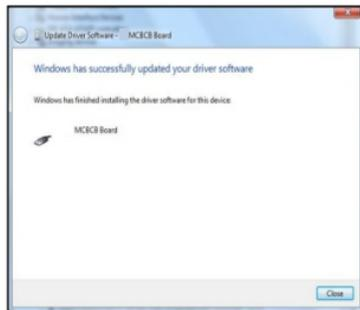

Figure 3-15
Click on the "Always install the driver software (I)", the system will jump out that you have been successfully installed the driver file, as shown in figure 3-15.